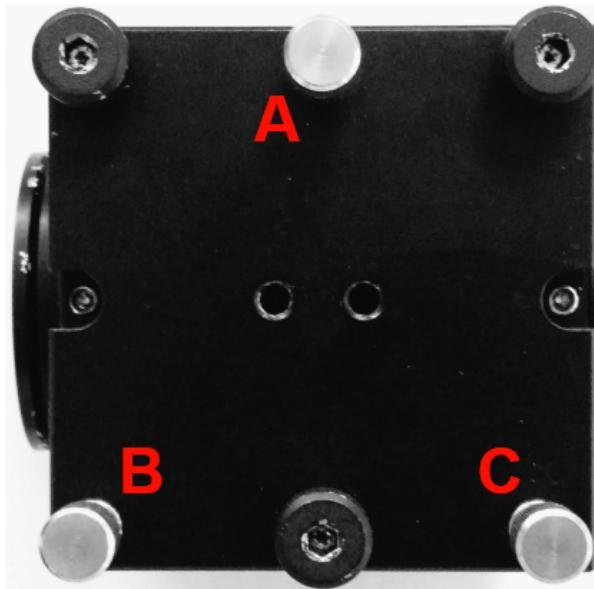

Figure 26: CUBE-III kinematic adjuster A alone, or B and C in tandem, to get the beams uniformly in/out of focus; use
**Adjust:** Dichroics' CUBE-III kinematic adjusters (Figure 26)
**Adjust:** Right-angle mirrors' CUBE-III kinematic adjusters (Figure 26)